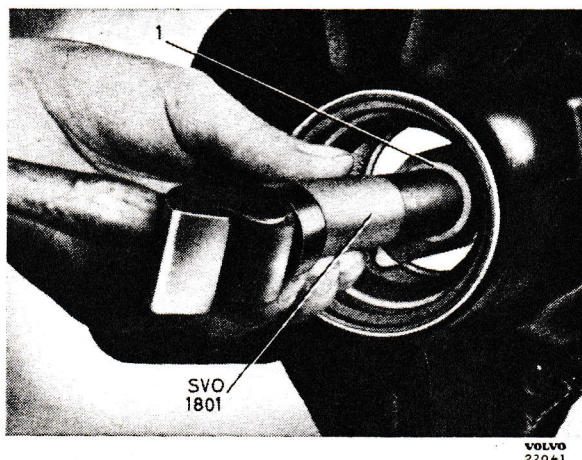

Fig. 12. Removing the bearing race.
10. If necessary, drive out the bearing outer races, see Fig. 12. Use the standard handle SVO 1801 and tool SVO 4063 for the forward and SVO 4064 for the rear race. Do not lose the shims (30) under the rear ring.